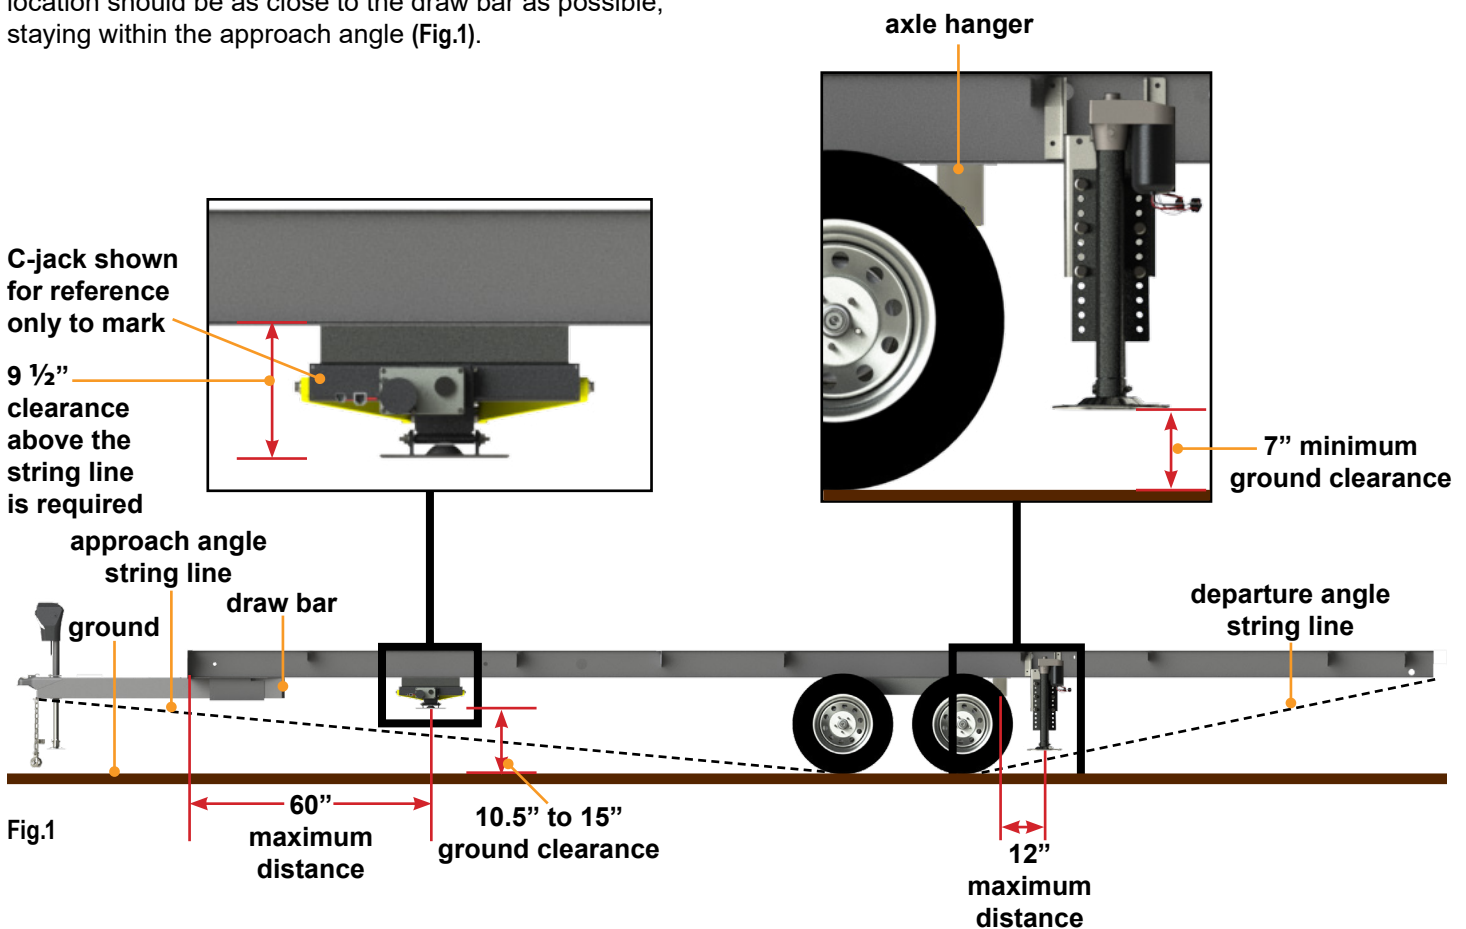

Fig.1
Departure and approach angles are measured by running a string line from the meeting point of the tire and ground up at an angle to the lowest point on the front or rear of the trailer. These string lines are shown as dotted lines (Fig.1).
Measure from the front of the frame and make a mark at 60". This will be the maximum allowable distance for the location of the center of the C-Jack footpad. The final location should be as close to the draw bar as possible, staying within the approach angle (Fig.1).
Measure 12" from the center of the rear axle hanger to the center of the rear 5K short jack footpad. This will be the maximum allowable distance for the location of the center of the 5K jack footpad. Make sure the jack footpad is within the departure angle (Fig.1).
2. Measure from the front of the frame and make a mark at 60" (Fig.1). This will be the maximum allowable distance for the location of the center of the C-Jack footpad. The final location should be as close to the draw bar (Fig.1) as possible, staying within the approach angle (Fig.1). Make sure the bracket lip is flush with the outside lip of the I-beam (Fig.2A).